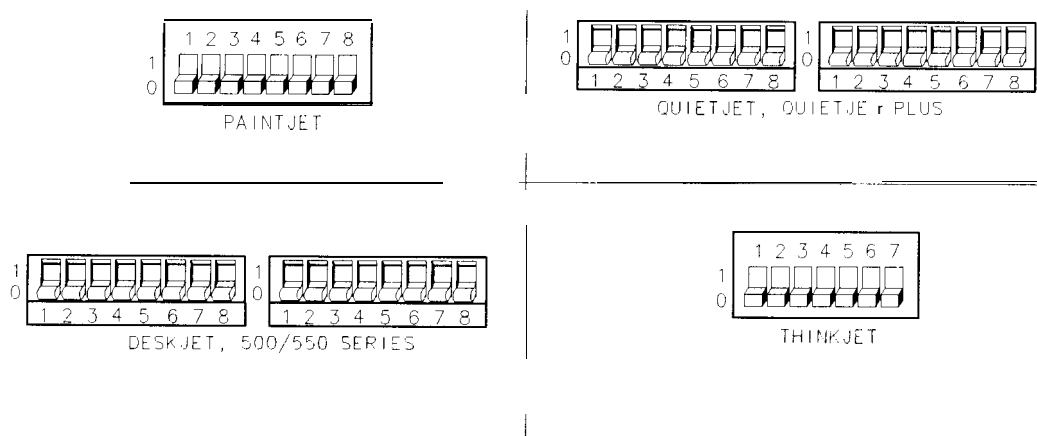

Figure 6-13. Parallel Printer Switch Settings
3. If your printer has configuration switches, now is the time to set them. See Figure 6-13 or refer to your printer's documentation for more specific information on your printer's configuration.